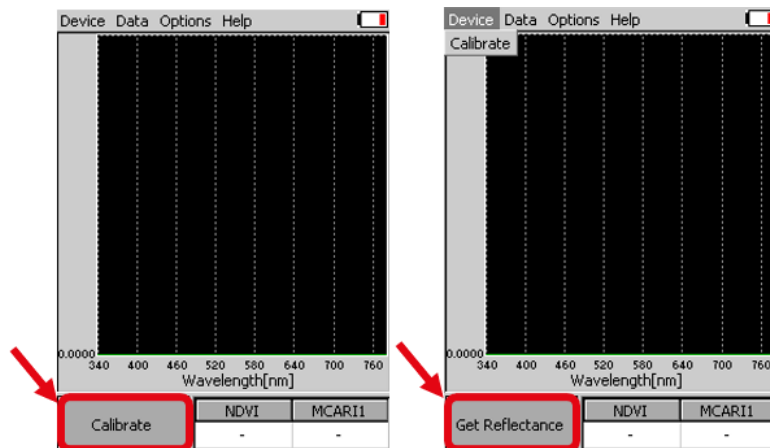

Fig. 4 PolyPen calibration.
- In the main window go to > Calibrate > press OK (Fig. 4).
- After the calibration step is performed, Main window icon Calibrate will change into Get reflectance (Fig. 4). Get Reflectance – shows up after successful calibration, measures and stores reflectance spectrum.